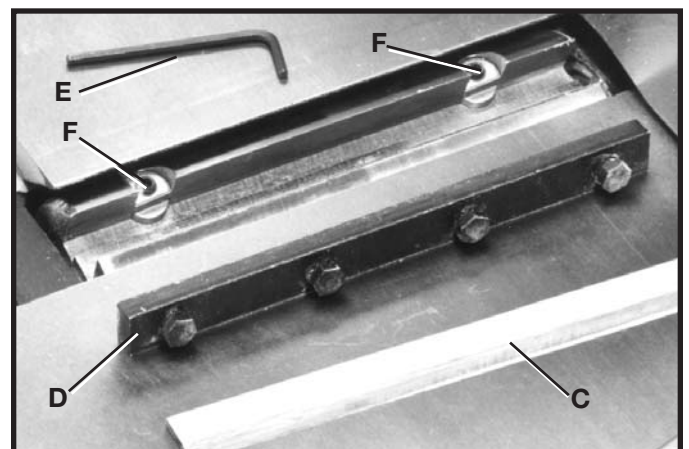

Fig. 58
5. Fig. 58, illustrates the knife (C) and knife locking bar (D) removed from the cutterhead. Remove the remaining two knives and locking bars, in the same manner.
6. Using the 2.5mm allen wrench (E) Fig. 58, lower the two knife adjustment blocks by turning screws (F) counterclockwise in all three slots of the cutterhead.
8. Place the knife locking bars (D) Fig. 58, and knives (C) into each slot in the cutterhead.